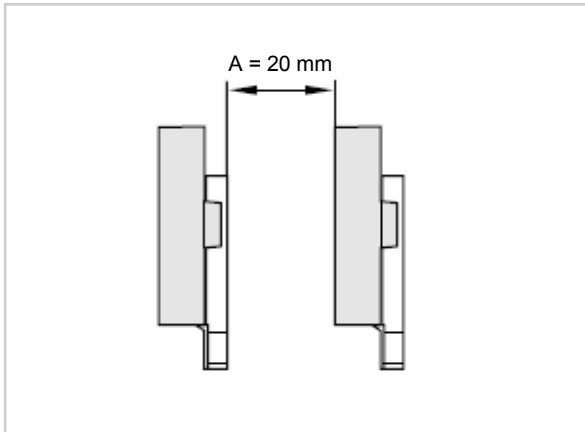

Fig. 16: Recommended clearance A among each other.
- For multiple sensor arrangements, it is recommended to place the sensors including their current feeds with a clearance (A) of at least 20mm to each other as shown in Fig. 16. A smaller distance may cause cross talk to adjacent sensors. The primary current feeds in the PCB may not to be routed underneath a sensor.